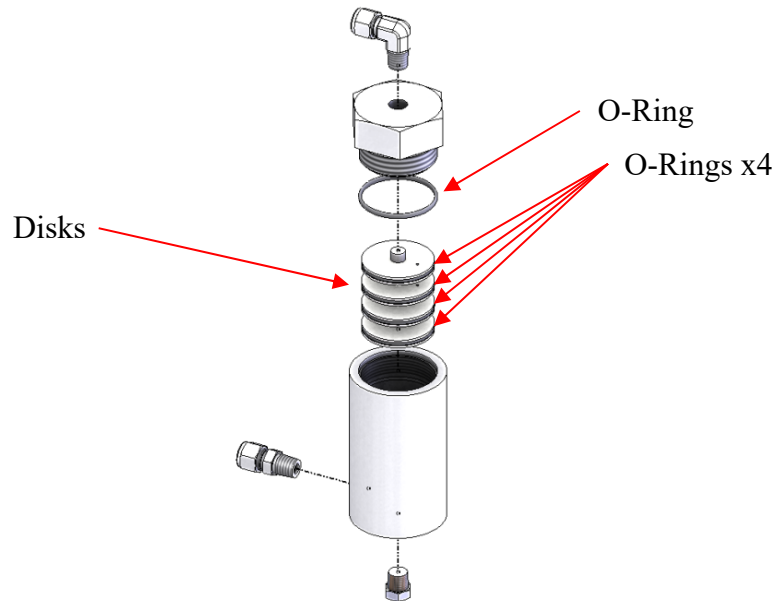

Figure 38: Pressure Snubber Exploded Assembly
- g) Remove all the o-rings from the disks. See Figure 38.